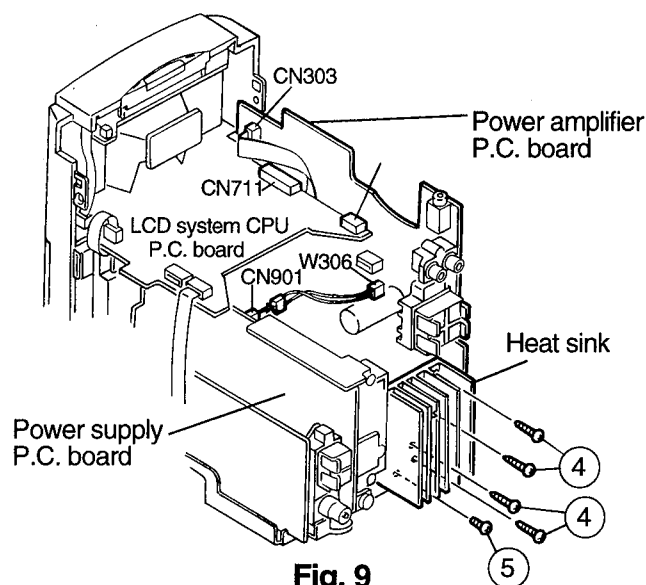

Fig. 9
(See Figs. 9 and 10)
4. Remove the five screws ④ and ⑤ retaining the heat sink. (See Fig. 9)
5. From the connector CN303 on the power amplifier P.C. board, disconnect the card wire outgoing from the connector CN34 on the head amplifier & mechanism control P.C. board. (See Fig. 9)
6. From the connector CN901 on the power supply board, disconnect the connector wire out going from the connector W306 on the power amplifier P.C. board. (See Fig. 9)
8. Remove the power amplifier P.C. board from the two connectors CN711 and CN712 on the LCD system CPU P.C. board. (See Fig. 9)